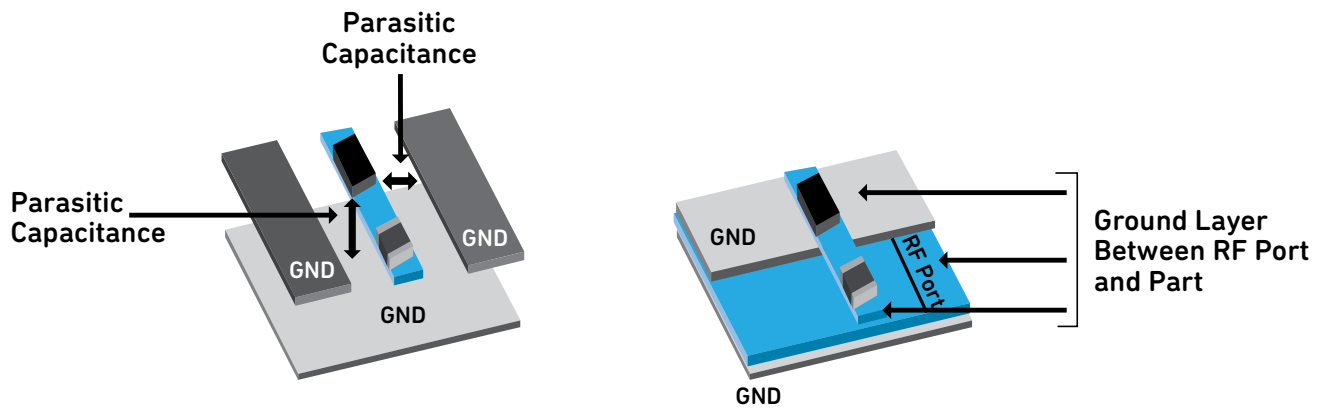

Figure 6. Inductance versus ground and components.
- Provide adequate ground clearance around all RF components. Minimize placing ground close to RF ports as this can increase parasitic capacitance. (See Figure 6.)